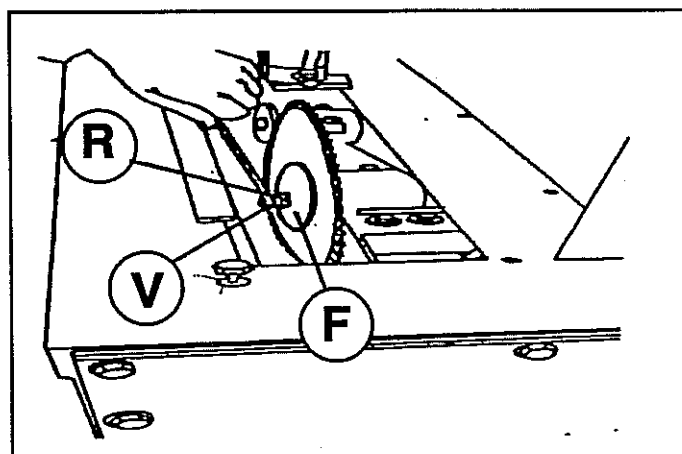
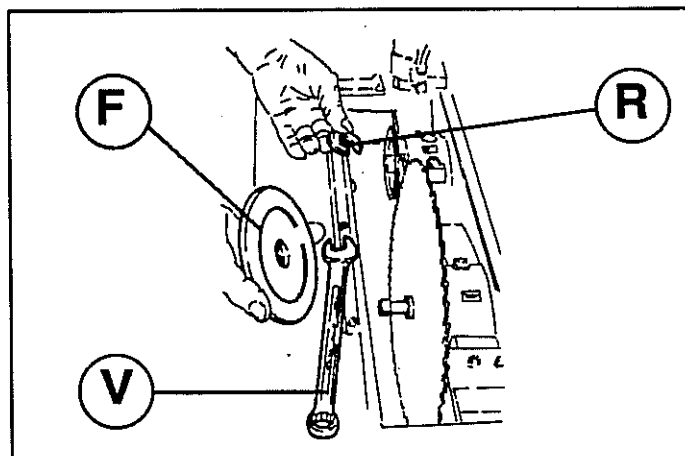

Fig.3.6
Fig.3.7
- 5- Partially unscrew the locking screw (V) with the supplied wrench as in fig.3.6
- 6- Remove the locking washer (R fig 3.6), paying attention that it does not fall inside.
- 7- Remove the flange (F)
- 10- Mount the flange (F fig.3.7)
- 11- Mount the washer (R)
- 12- Tighten with the locking screw (V fig.3.6)